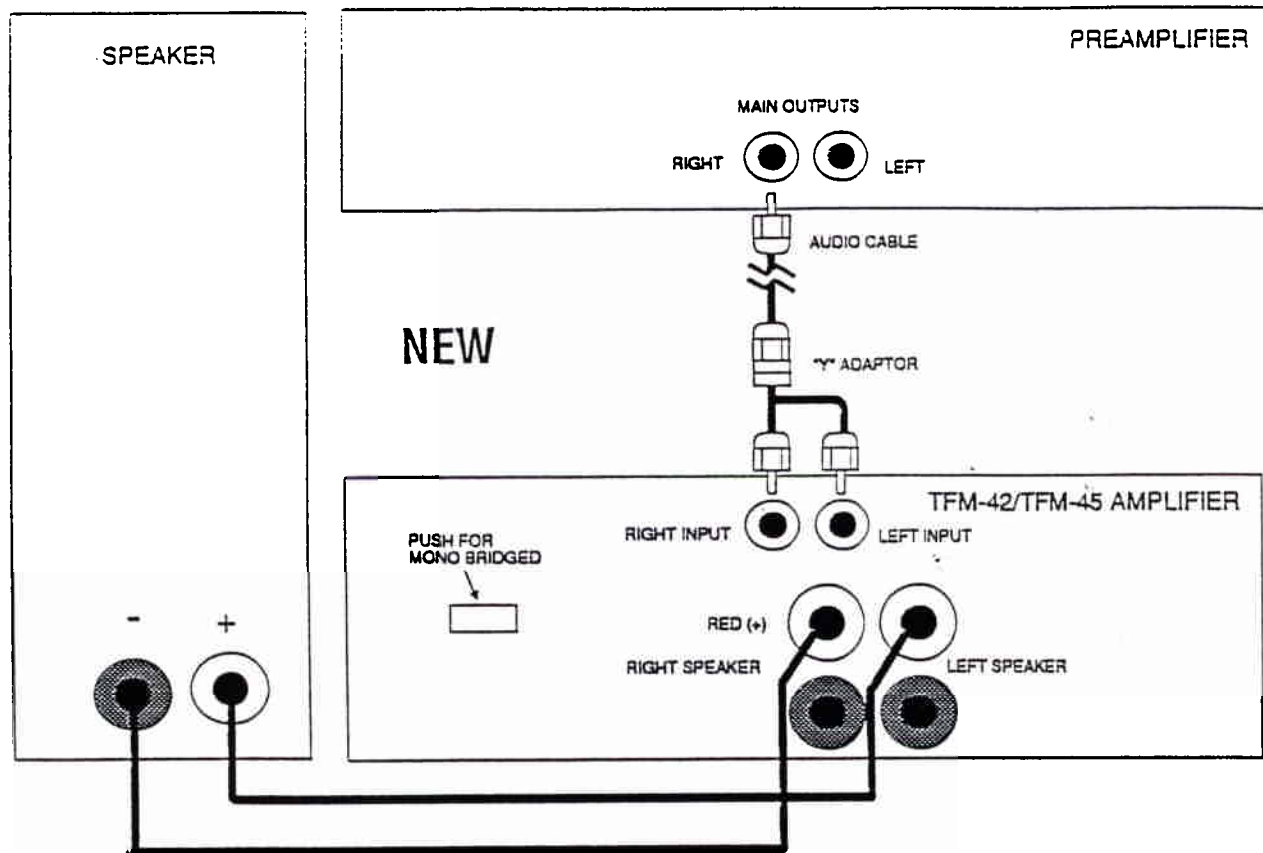

Figure 5 Connections for Mono Operation
This correction replaces Connections for Mono Operation on page 10 and Figure 5 on page 11.
2. Connect the LEFT and RIGHT input jacks on the TFM-42/45 to a "Y" adapter. Connect the Y-adapter via an audio cable to either the LEFT or RIGHT output of a mono source, as shown in Figure 5.